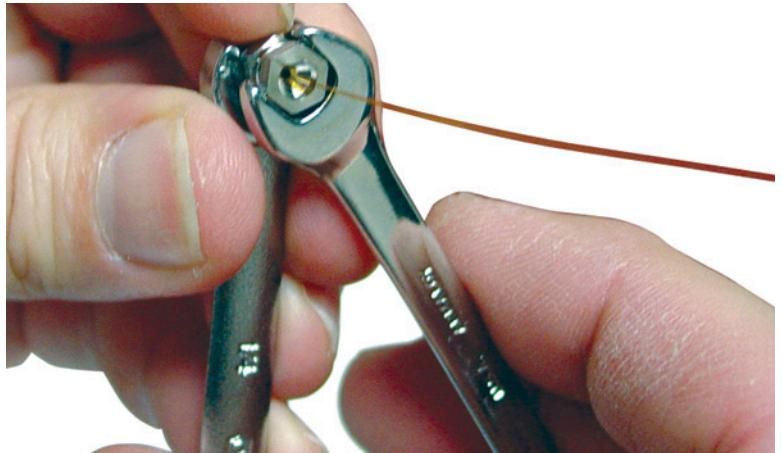

Figure 3 Tightening the swaging nut
- 3 Tighten the two nuts together a little at a time, occasionally checking to see if the ferrule is gripping the tubing (Figure 3). When the ferrule just starts to grip, notice the position of the nut and then tighten the nut by turning 60 degrees (one flat).